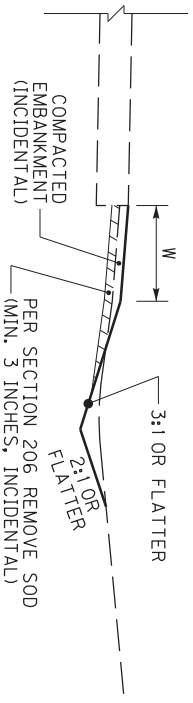

FIGURE 8
10. AS SHOWN IN FIGURE 8, IN SOME SITUATIONS, THE DITCH AND SHOULDER MAY ONLY NEED MINOR REGRADE AND/OR RESHAPING. THE MATERIAL EXCAVATED FROM THE DITCH MAY BE USED TO RESHAPE THE EARTH SHOULDER, PROVIDED THE ENGINEER DETERMINES THE MATERIAL REMOVED FROM THE DITCH IS SUITABLE FOR SHOULDERING. IF THE MATERIAL IS NOT SUITABLE, ADDITIONAL EARTH MATERIAL MAY BE REQUIRED.